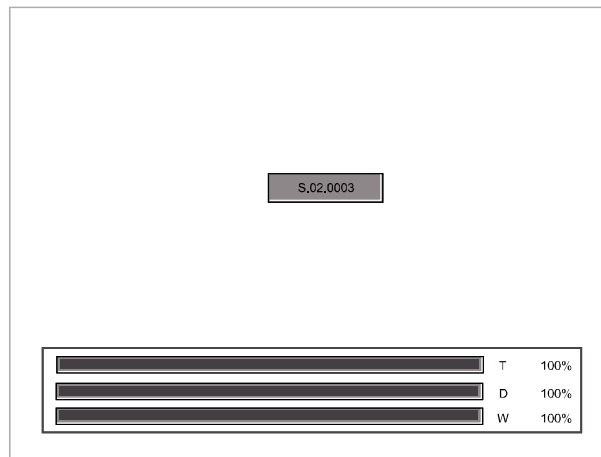

Figure 16. Firmware downloading completion
9. When three bars are filled, the completion code will be displayed in the box located on the center of the screen as shown Figure 16. Refer to Table 15.